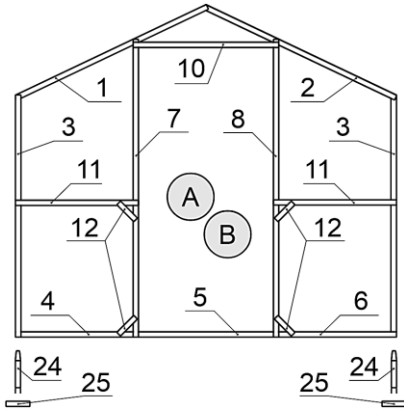

Fig.1 Ends "A", "B"
3. Assembling Ends "A" and "B" (identically the same). Fig.1